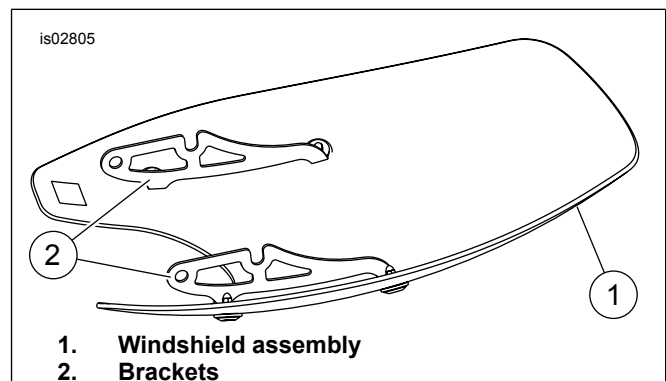

Figure 1. Windshield Mounting Brackets
1. See Figure 1. Remove windshield sub-assembly from packaging and place face down on a clean, soft surface with mount brackets facing upward.